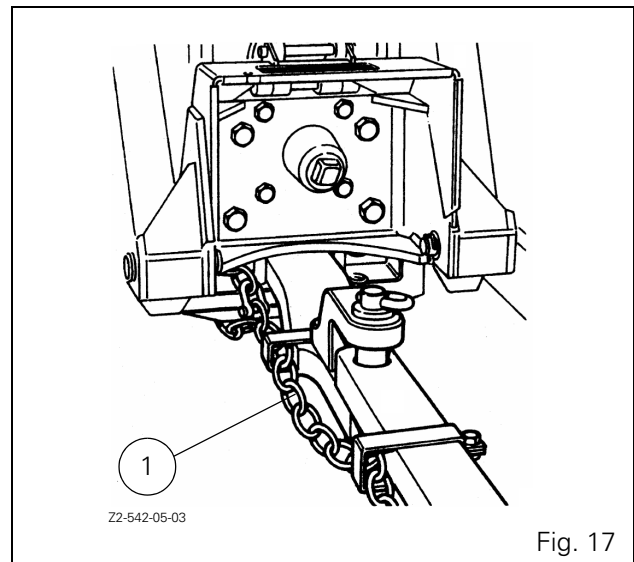

Fig. 17
- A transport chain 1 will help control drawn equipment should it be accidentally separated from the drawbar while transporting. Using the appropriate adapter parts, attach the chain to the tractor's safety chain anchor or any other specified anchor point. Provide only enough slack in the chain to permit turning. Contact your AGCO dealer for a chain of equal or greater strength than the weight of the trailed implement (Fig. 17).
- Ensure that all trailed implements are fitted with a safety chain linking the tractor to the implement, if required by law (Fig. 17).